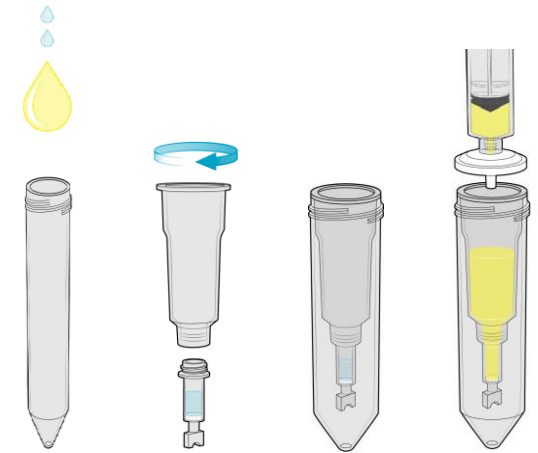

Figure 1. Sample preparation.
3. Assemble the Anti EPO gel column containing affinity resin with the Funnel F20 and put it into a 50 mL conical centrifuge tube as illustrated in Fig.1.